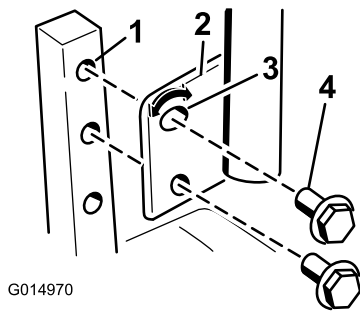

Figure 23
1. Remove the 2 bolts holding the control lever to the control arm shaft (Figure 23).
2. Move the control lever to the next set of holes. Secure the lever with the 2 bolts (Figure 23).
- Loosen the lower bolt just enough to pivot the control lever fore or aft (Figure 23). Tighten both bolts to secure the control in the new position.